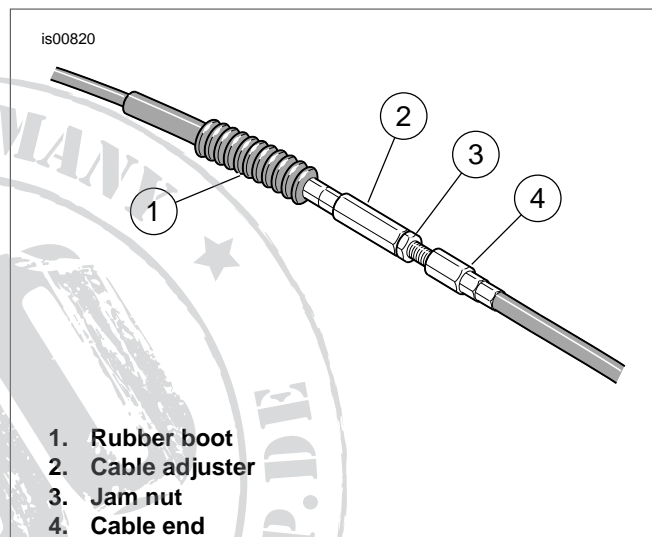

Figure 1. Clutch Cable Adjuster
1. See Figure 1. Slide rubber boot (1) off clutch cable adjuster (2). The adjuster is located about halfway along clutch cable by front frame downtube.
8. See Figure 1. Turn cable adjuster away from jam nut until slack is eliminated at hand lever. Pull clutch cable ferrule away from clutch lever bracket to measure free play.